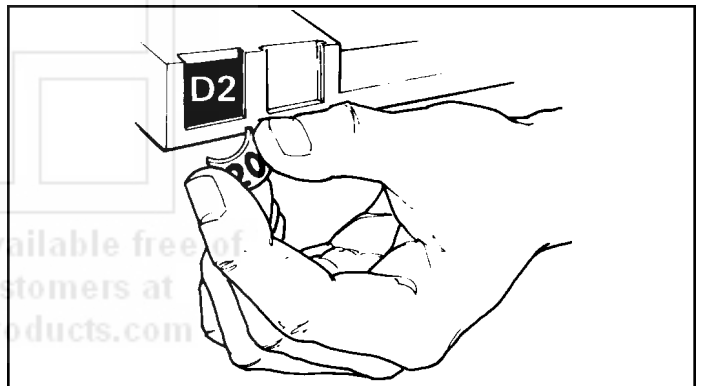

Figure 9. Installing price tabs.
12. Install Proper Price Tabs into price tab holder for each selection in the main product area. (Figure 9.)